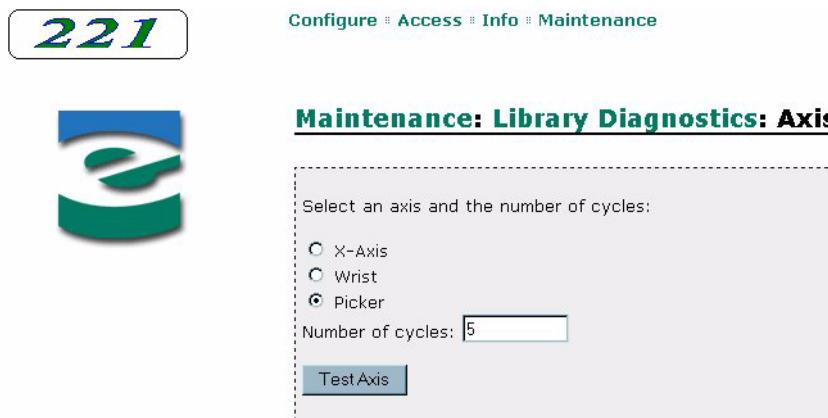

Figure 6-42 Remote management utility – Axis Diagnostics page
4. Click on Continuously cycle an axis. A page similar to Figure 6-42 appears.